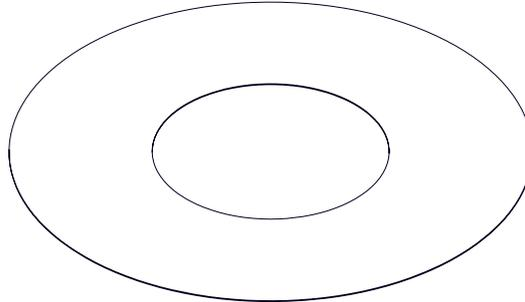

**Fig. 9.** Adjusting the guide for beveling with radius
Unplug the machine from the power source, place the machine upside down, and then lower the sleeve to access the cutting inserts. Next, place the positioner from the top (1, Fig. 9) so that the edge marked with a given radius is aligned with the edges of three cutting inserts with the same radius (2). Finally, rotate the sleeve (3) so that the guide makes contact with the positioner (4).